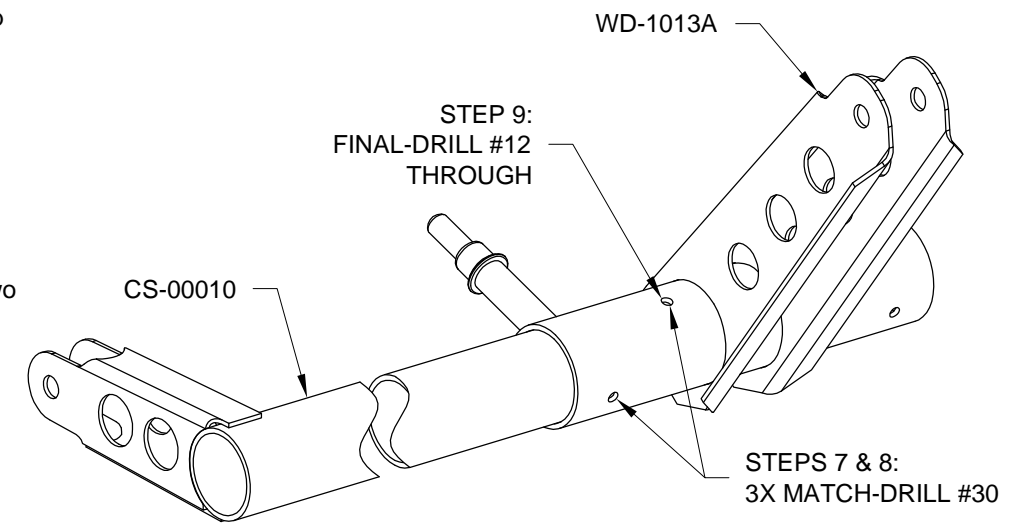

FIGURE 3: DRILLING FLAP CRANK AND TORQUE ARM (LEFT SHOWN)
Step 9: Final-Drill #12 all the way through the holes on both sides of the WD-1013A Flap Crank and CS-00010 Flap Torque Arm as shown in Figure 3.